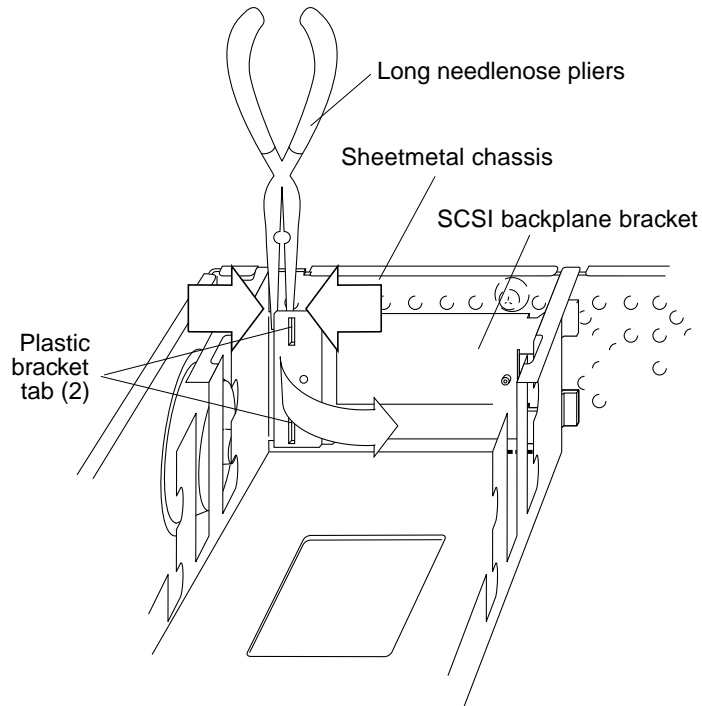

FIGURE 8-28 SCSI Backplane Bracket Tabs
9. Remove the SCSI backplane bracket as follows (FIGURE 8-28):